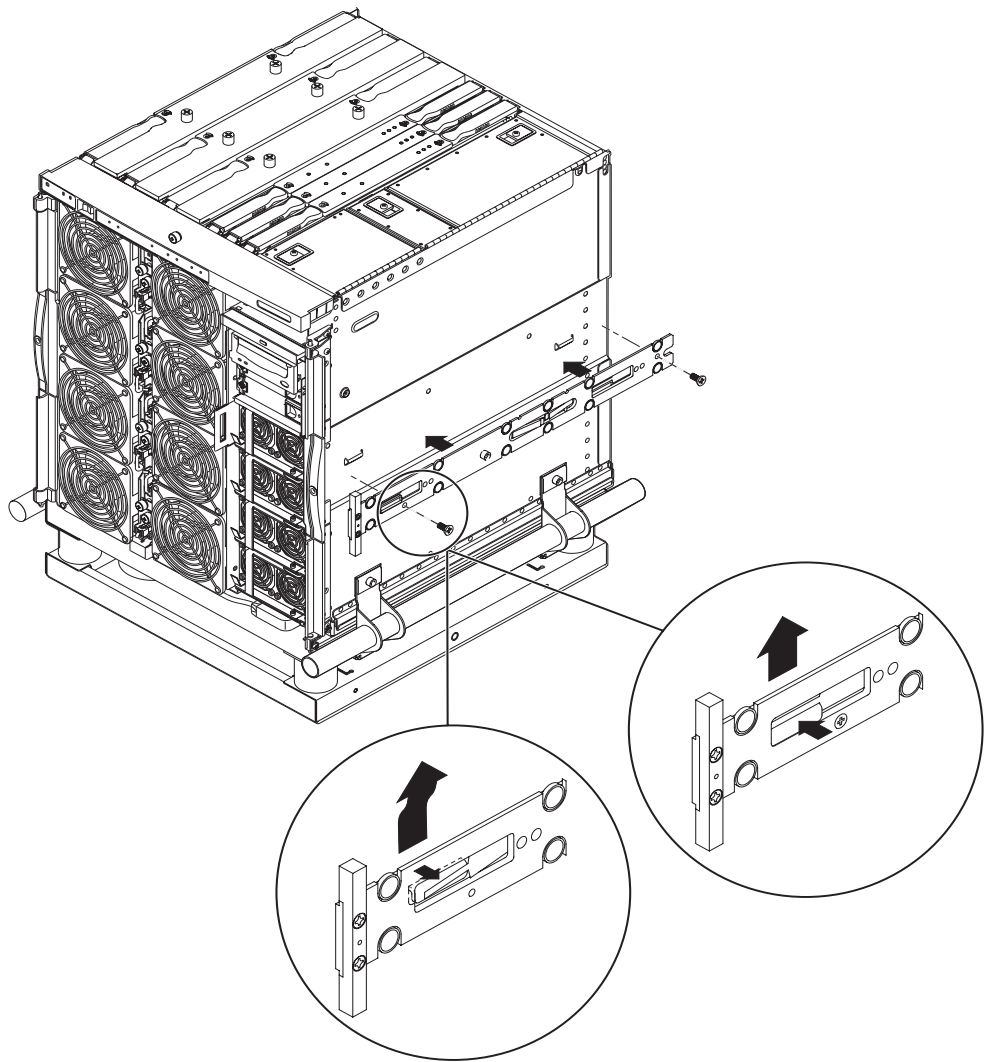

FIGURE 1-2 Spring Clips and Cutouts
2. Push up on the inner slide so that the locating tab, on the side of the system, clips over the cutouts in the slide (FIGURE 1-2).